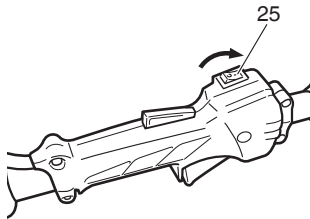

Fig. 15
(1) Set ignition switch (25) to ON position. (Fig. 15)